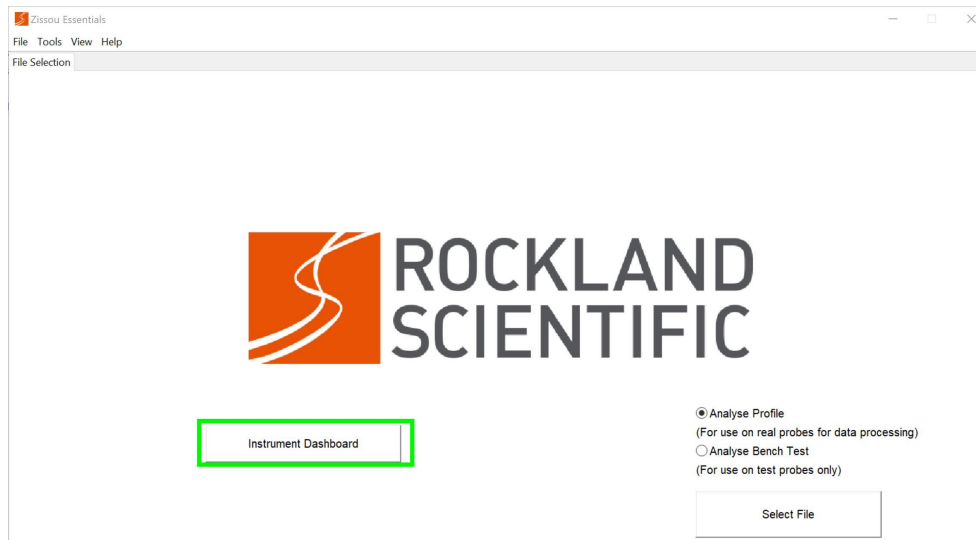

Figure 36: The “Instrument Dashboard” button (green) on the Zissou Essentials home page.
2. On the software home page, hit the “Instrument Dashboard” button (Figure 36). The option is also available under the “Tools” drop-down menu.